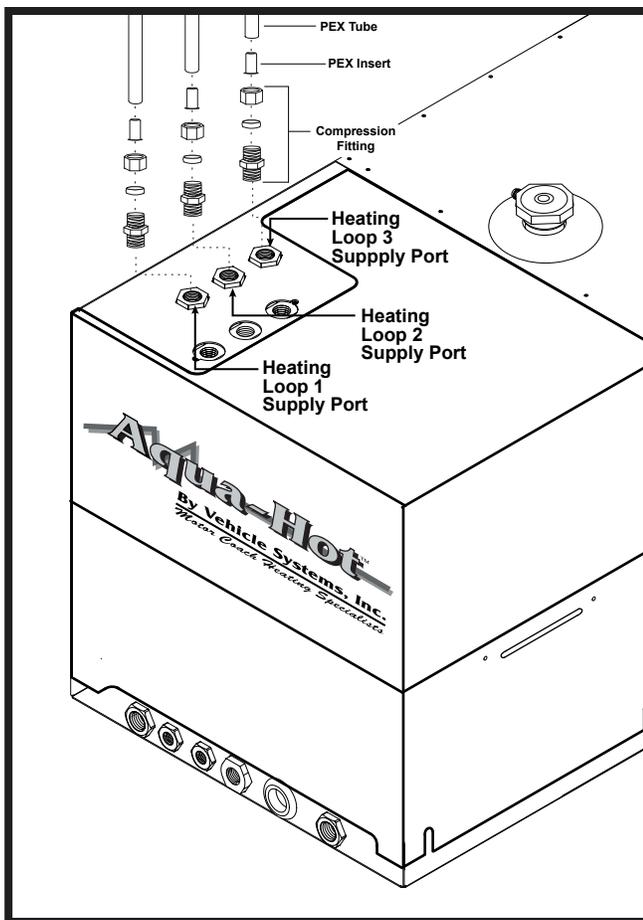

Figure 16A
4. Connect and tighten all interior Plumbing Lines, **Supply** and **Return**, to the Aqua-Hot's appropriate Heating Zone ports; reference Figures 16A and 16B.